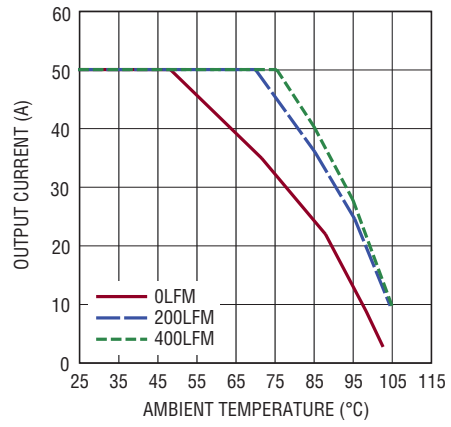

Figure 23. 12V to 1.5V Derating Curve, BGA Heat Sink
**Table 4. Output Voltage Response vs Component Matrix (Refer to Figure 23) Load Step Typical Measured Values**